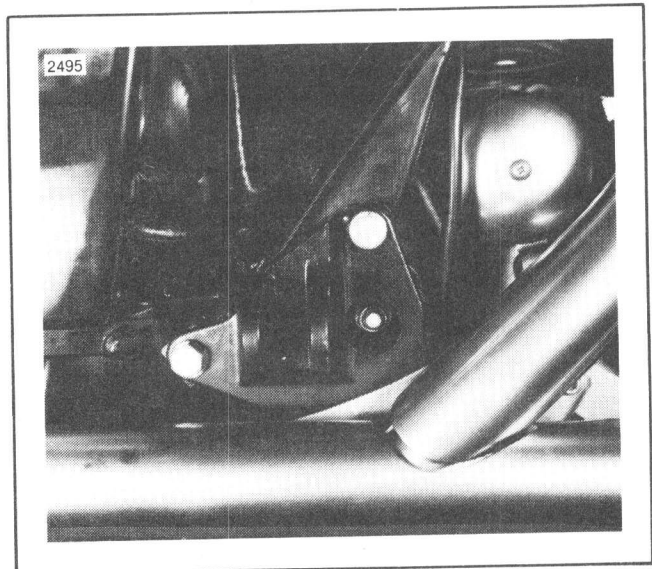

Figure 5-9. Rear Mount Installed
23. Install bolt (20) and lockwasher (21) and tighten the three mounting bolts to 34-42 ft-lbs torque. Figure 5-9 shows rear mount installed.